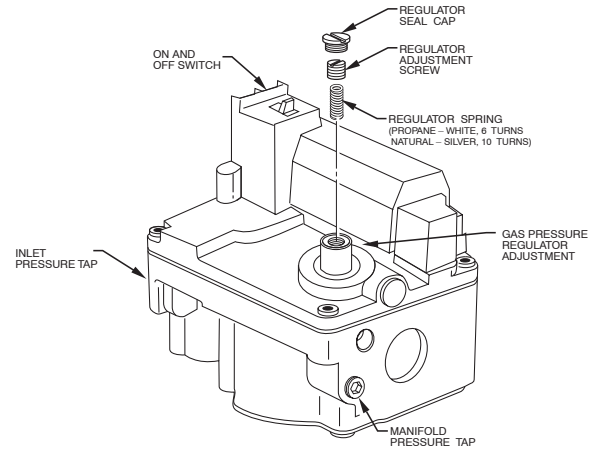

**Fig. 8 - Single Stage Gas Valve Series F**
2. Remove regulator seal cap. (See Fig. 8, 9 or 10.)
5. Turn regulator adjustment screw clockwise (in) 6 turns for Fig. 8 and 9.
2. Remove 1/8-in. (3 mm) pipe plug from inlet pressure tap on gas valve. (See Fig. 8, 9 or 10.) **DO NOT DISCARD** 1/8-in. (3 mm) PLUG.
2. Remove 1/8-in. (3 mm) pipe plug from manifold pressure tap on downstream side of gas valve. (See Fig. 8, 9 or 10.)
- a. Turn adjusting screw counterclockwise (outwards) to decrease manifold pressure or clockwise (inwards) to increase manifold pressure. (See Fig. 8, 9 or 10.)
7. Remove manometer and replace manifold pressure tap plug. (See Fig. 8, 9 or 10.)